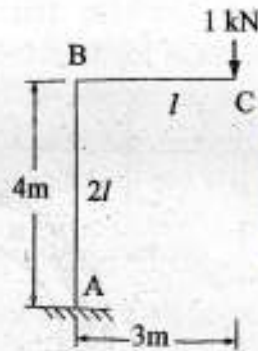

Fig. 5
- (b) Determine the vertical deflection of point C in the frame shown in figure 5. Given $E = 200 \text{ kN/mm}^2$ and $I = 30 \times 10^6 \text{ mm}^4$. Use strain energy method. 8